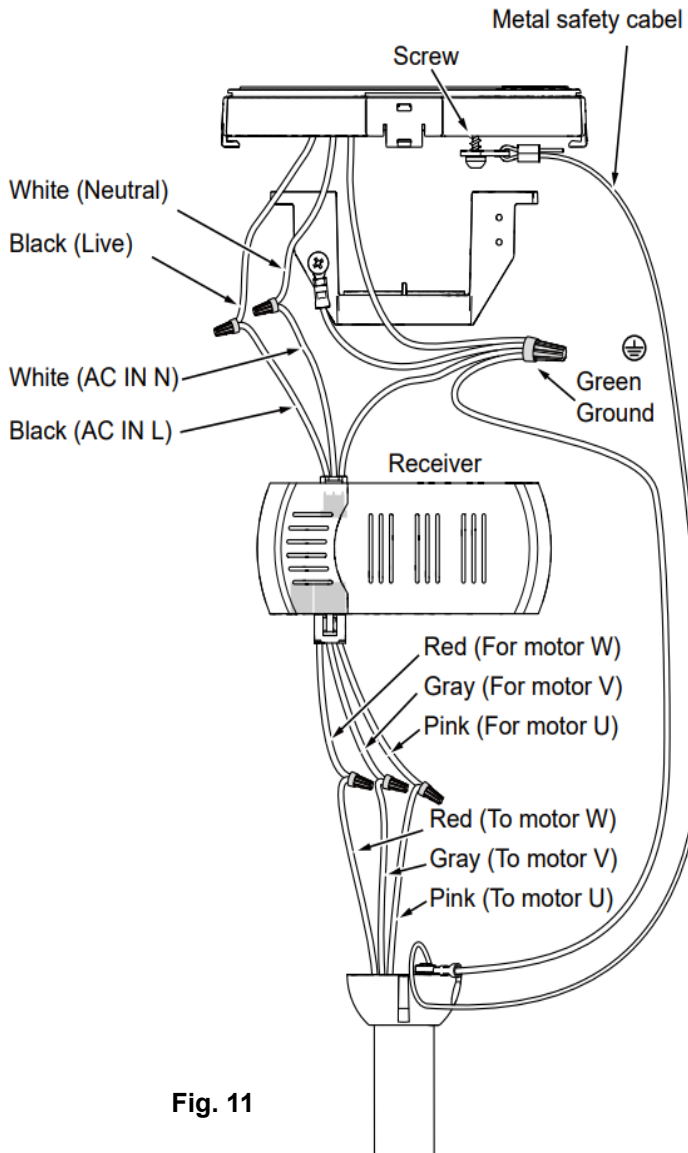
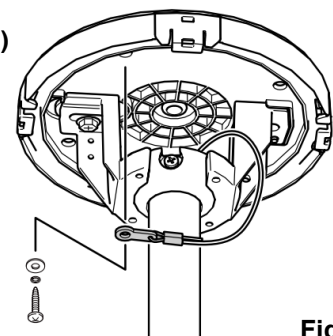

Fig. 11
Fig. 12
- Complete the electrical wiring according to the 'ELECTRICAL WIRING DIAGRAM' section below. (Fig.11)
1. Connect the household live supply wire (black) to receiver input wire (black, AC IN L) as shown in (Fig. 11)
7. Installed the metal safety cable into the house structure beams using the machine screws and flat washer which provided, make sure that when the safety cable is fully extended the lead wires are longer than the cable and no stress is placed on the lead wires. (Fig. 11 & Fig.12)